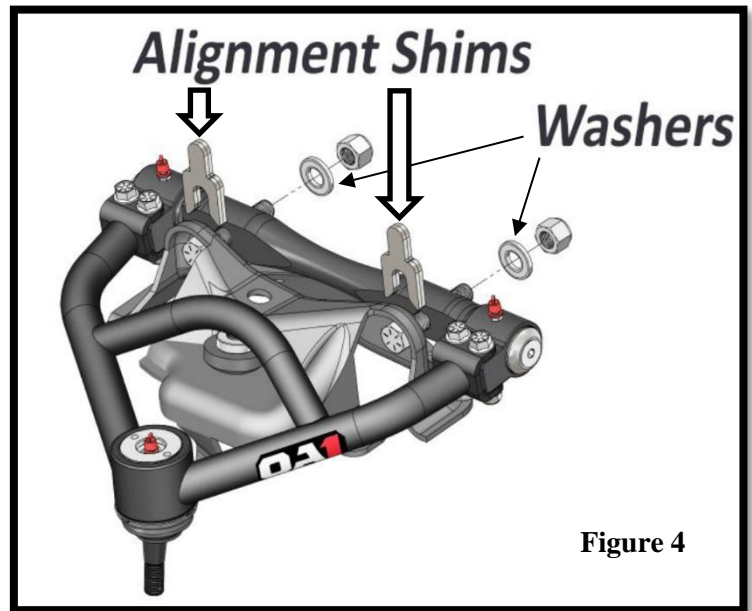

Figure 4
1. Install the provided washers between the aluminum cross-shaft and the factory hardware. The smooth side of the washer should face the cross-shaft. Failure to install a washer between the nut and the cross-shaft will damage the arm. **(Figure 4)**
2. Install QA1 upper control arms onto the mounting studs with all of the shims originally removed in their original positions. **(Figure 4)**